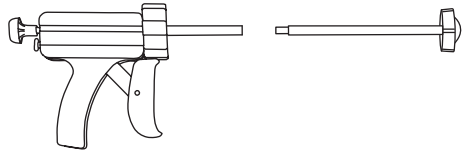

FIGURE 1
2. Align threads of two Plunger Shaft pieces and turn clockwise until tight (**Figure 1**).